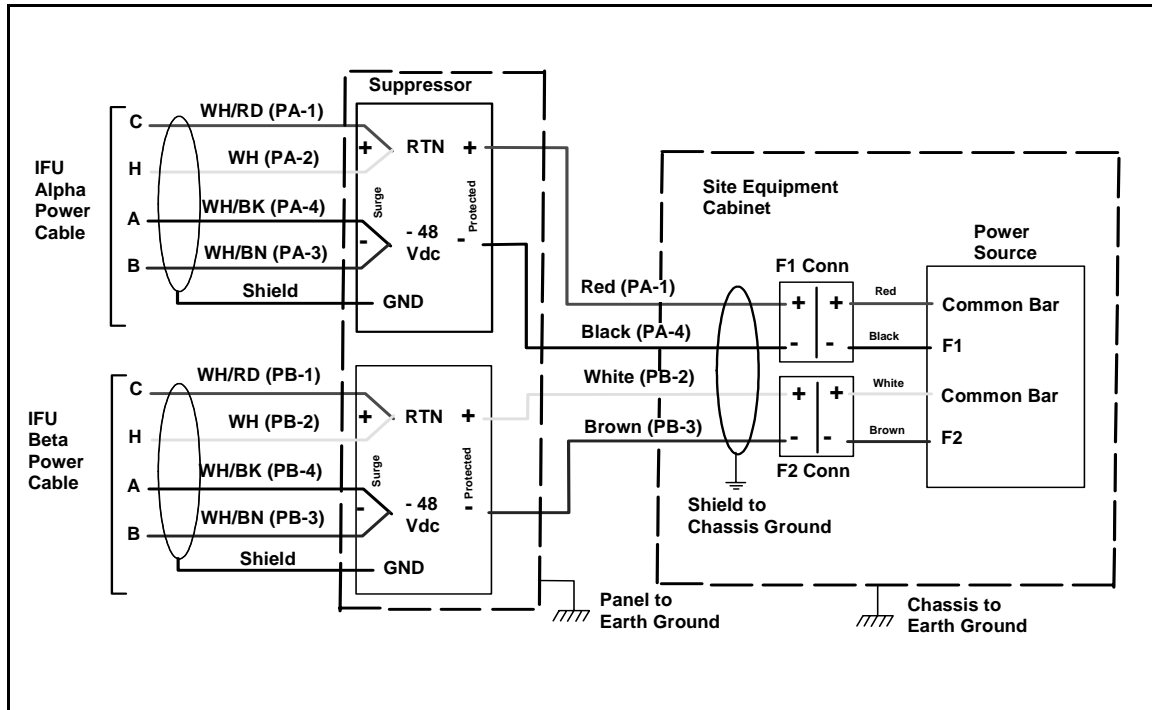

Figure 3-4. Typical IFU Power Termination Wiring Schematic
- 4 Attach the IFU power cables to the surge suppressors as shown on Figure 3-3, Figure 3-4, and Table 3-3.